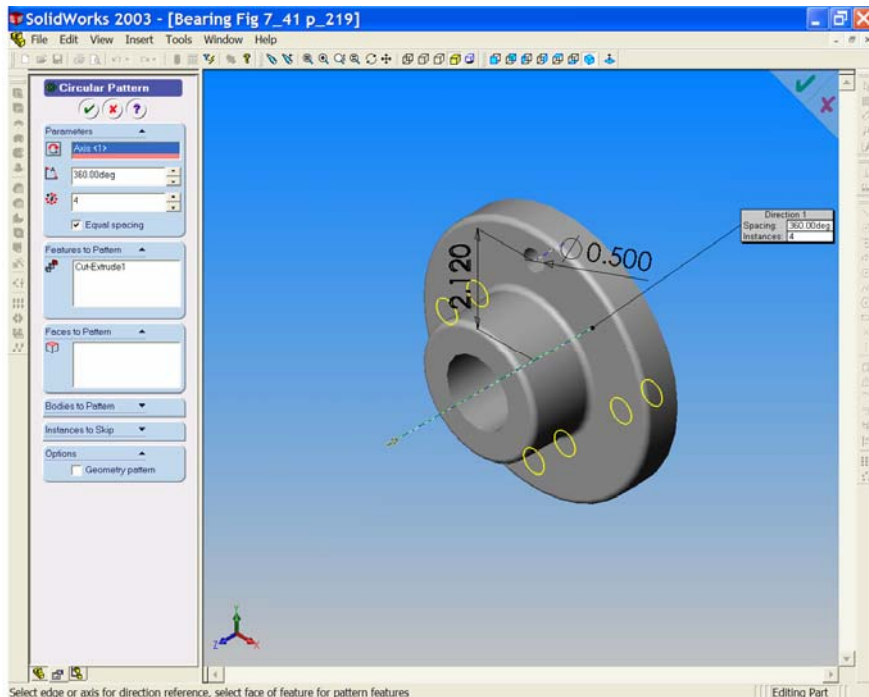

Figure 5
- Turn on 'Temporary Axes' from the 'View' dropdown menu. Select 'Circular Pattern', the Circular Pattern Properties Manager opens with 'Cut-Extrude1 listed in the Features to Pattern field. The 'Pattern Axis' field is pink; select the temporary axis that passes through the flange bore. Axis <1> is now listed and a preview of the patterned features is shown on screen. Increase the number of instances from 2 to 4 by using the 'up arrow'. Notice the preview changing as the value changes. Select OK. See Figure 5.